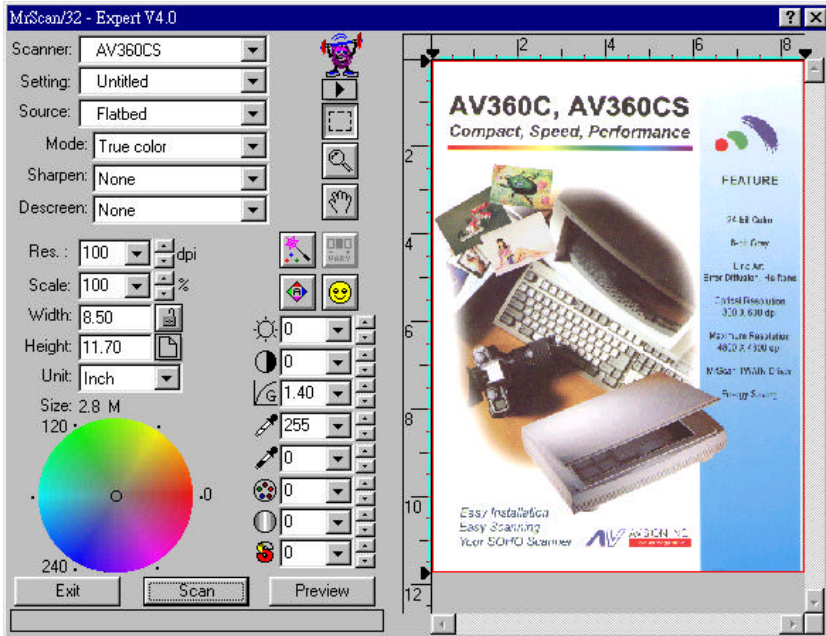

Figure 4-2 Avison TWAIN user interface
7. Avisision TWAIN user interface as Figure 4-2 will pop up on the screen. Click **Preview** or **Scan** button to scan the document.